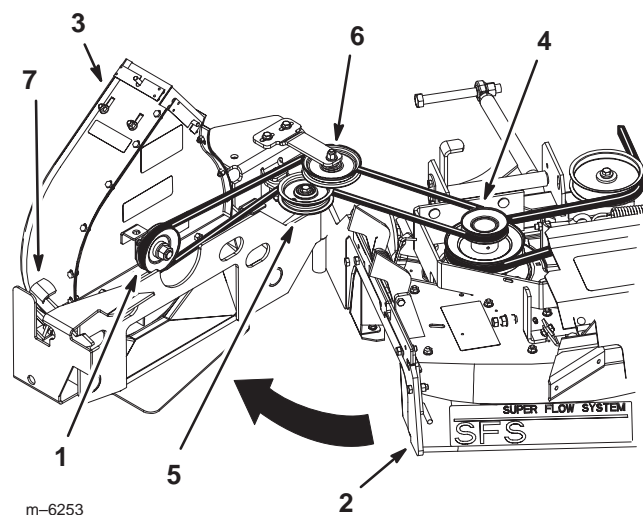

Figure 13
3. Open the blower assembly (Fig. 13).
4. Push down on the front latch (colored red) and open the blower assembly (Fig. 13).
6. Route the bagger belt around the **top pulley of the mower** pulley assembly (Fig. 13).
7. Feed the belt between the idler pulleys (Fig. 13).
8. Route the bagger belt around the **spring-loaded idler pulley** (Fig. 13). The backside of belt will be touching the pulley.
9. Route the bagger belt around the **fixed idler pulley** (Fig. 13).
10. Route the bagger belt around the **blower pulley** (Fig. 13).